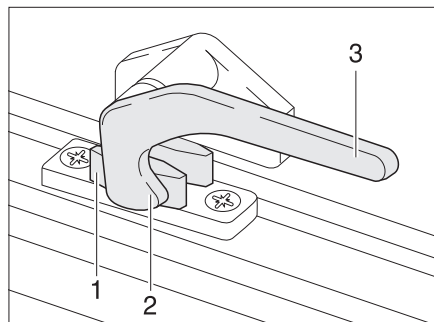

Fig. 35 Catch lever in "closed" position
- Turn the catch lever (Bild 35,3) a quarter turn towards the centre of the window.
- Turn the catch lever (Bild 35,3) a quarter turn towards the window frame. The locking catch (Bild 35,2) is located on the inside of the window catch (Bild 35,1).
- "Firmly closed" (Bild 35)